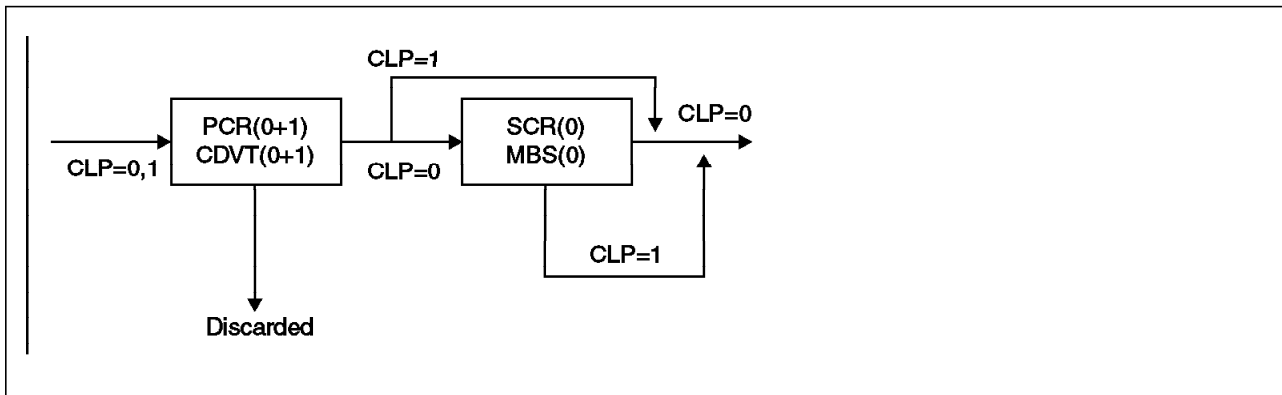

Figure 104. GCRA for Traffic Descriptor 8 (Tagging)
Figure 104 shows the GCRA for traffic descriptor 8 checking MBS(0) and SCR(0) and tagging nonconforming cells.